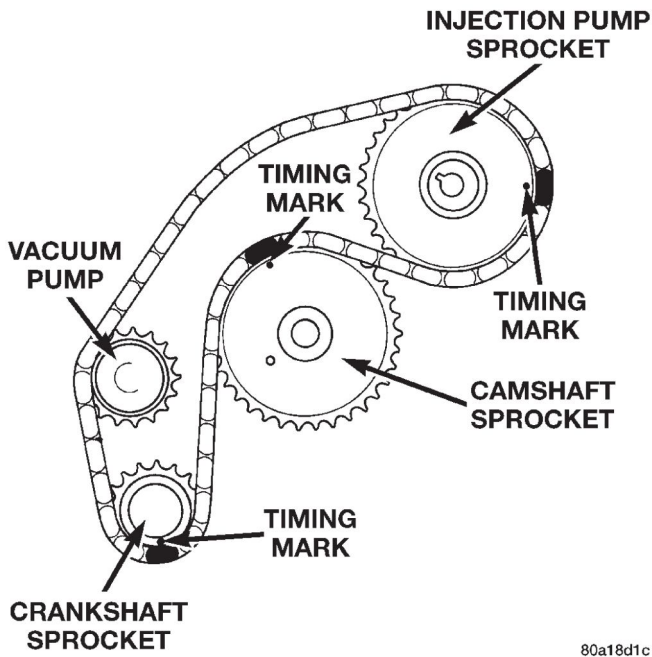

Fig. 66 Timing Marks
- (12) Rotate crankshaft to align timing marks on injection pump sprocket, camshaft sprocket, and crankshaft sprocket with three dark plated links on timing chain (Fig. 66).